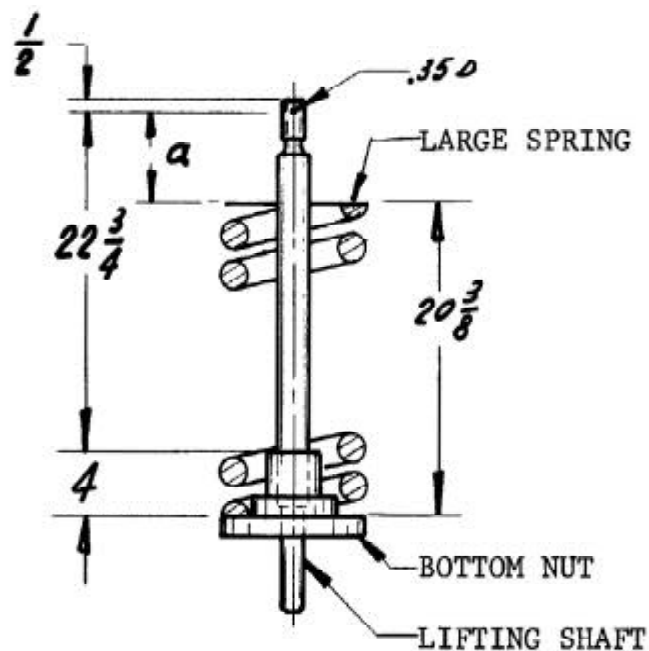

FIG. 25
- (3) Drive pressure switch (No. 17 on Fig. 25 or PS-3 on Fig. 35) 700 ± 100 psi.
- (1) Screw the nut onto the shaft to the point where the dimension from the top of the nut to the center of the cotter pin hole at the top of the shaft is a nominal $22 \frac{3}{4}$ inches. See Fig. 25.
- (1) Select the two Spring Lifting Shafts, with Bottom Nuts attached, having the closest to a nominal $26\text{-}\frac{3}{4}$ " dimension from the top of the bottom land of the Bottom Nut to the center line of the top cotter pin hole (See Fig. 25).
- (2) Select a pair of, and preferably the longest, most equal length (± 0.03 ") Outer Springs.
- (3) Mount the shafts and springs (selected per Paragraphs 1 & 2 preceding) in the outer bushings of the lower bushing holder.
- (4) Mount the remaining two shafts and outer springs in the inner bushings of the lower bushing holder.
- (5) Measure from the top of each spring to the center line of each cotter pin hole to determine a nominal dimension "a" (See Fig. 25, Page 56. This "a" dimension must be within 1/8" for all four shaft/spring sets.